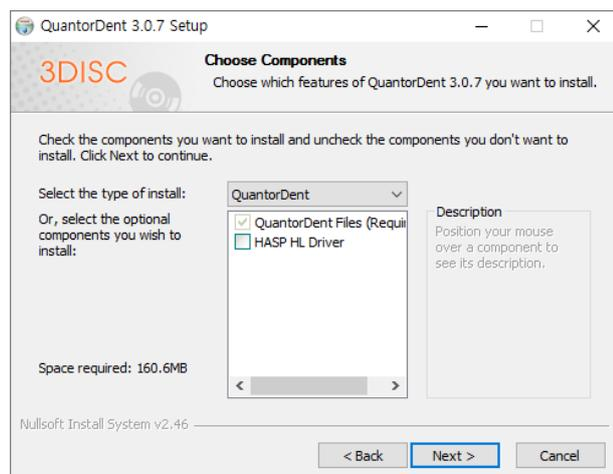

Figure 2.11 Components Dialog Box
4. Choose all components and click the "Next" button as shown in Figure 2.11.